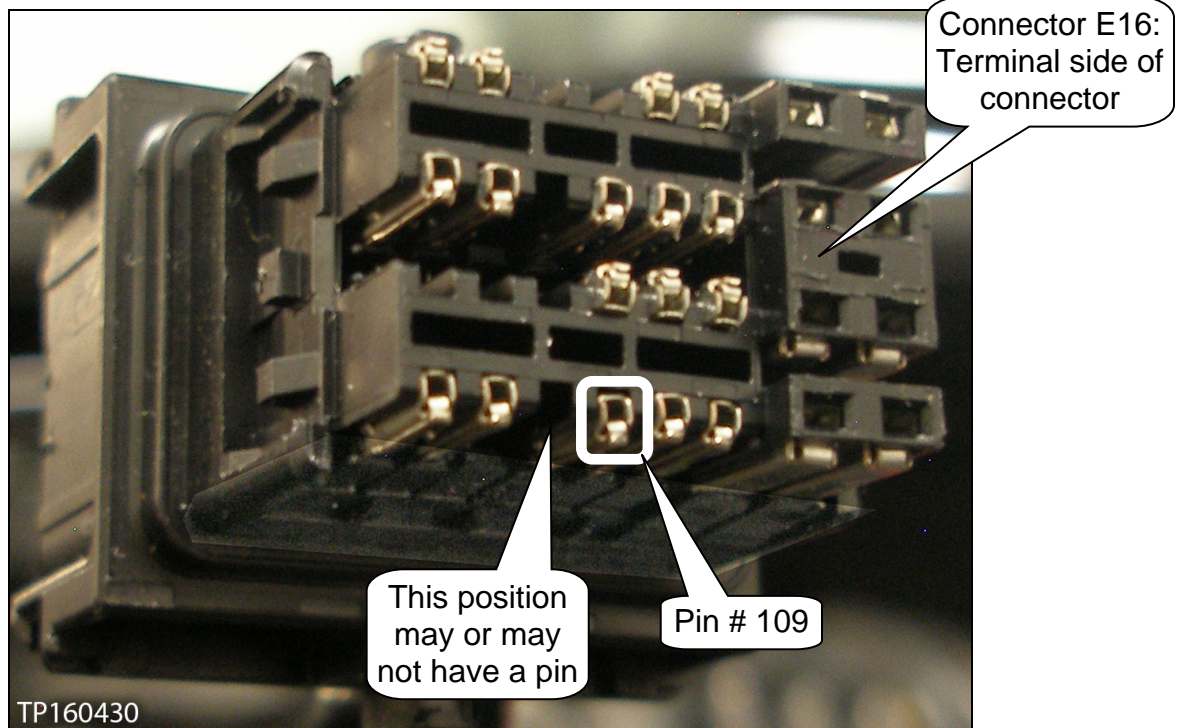

Figure 11
- Locate terminal pin # 109 and its corresponding ORANGE wire in connector E16 (see Figure 11).